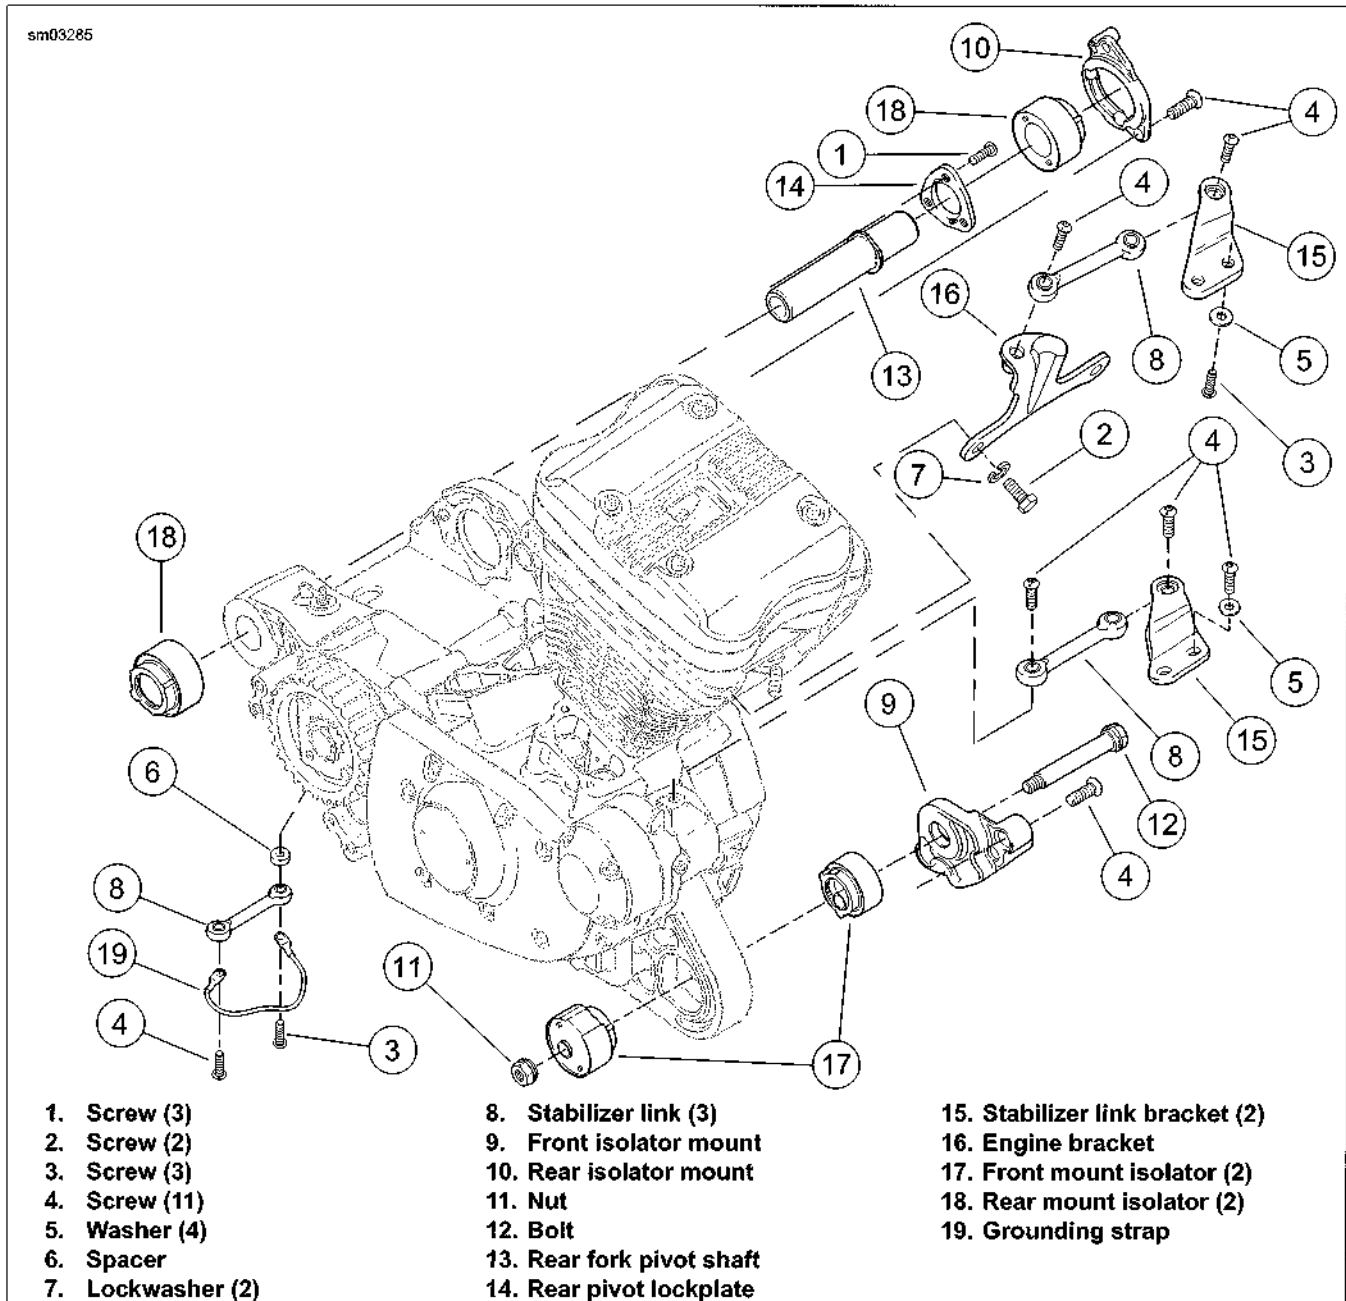

Figure 1-41. Engine Mounting Assemblies: All Models
1. See Figure 1-41. Check for cracks or tears in engine mount isolator rubber (17, 18).
2. Check for lateral movement at each end of the three stabilizer links (8). Any lateral movement indicates the need to replace the stabilizer link. Rotational movement does not indicate excess wear.